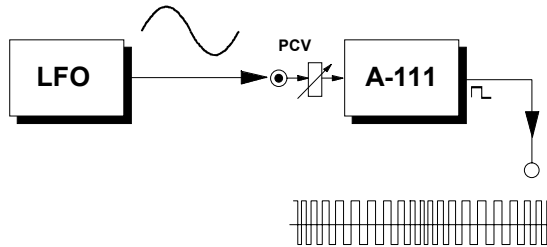

Fig. 15: Modulation of pulse width by an LFO
⑥ PCV
Socket ⑥ is the **pulse width** voltage control input socket for the VCO's rectangle wave. The level of voltage can be adjusted with attenuator ⑥. Fig. 15 shows pulse width modulation with an LFO.